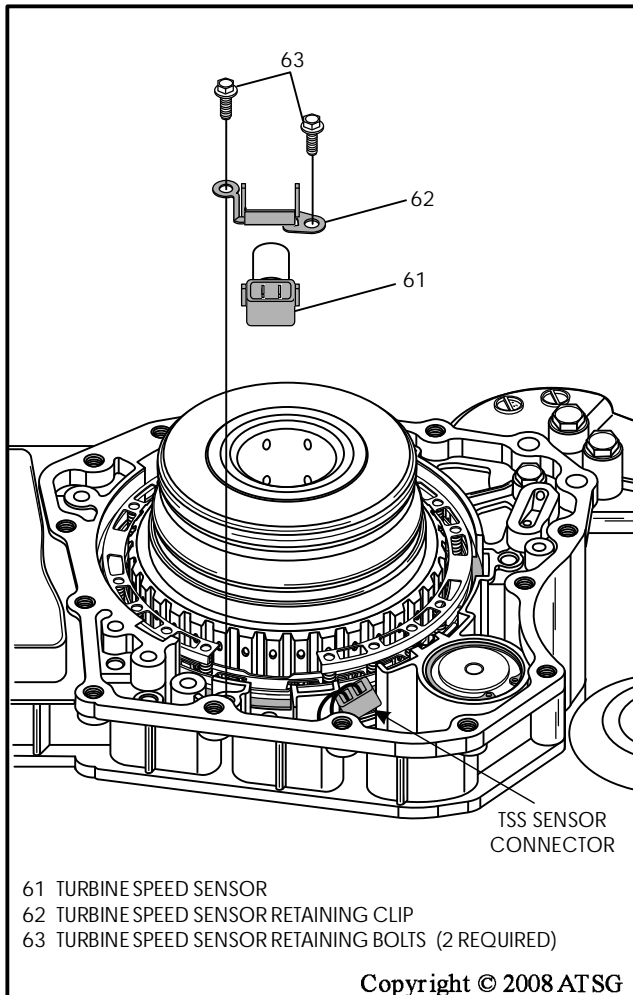

Figure 51
51. Disconnect the turbine shaft speed sensor and lay the connector to the side (See Figure 51).
52. Remove the two retaining bolts from the clip and remove the turbine shaft speed sensor, as shown in Figure 51.